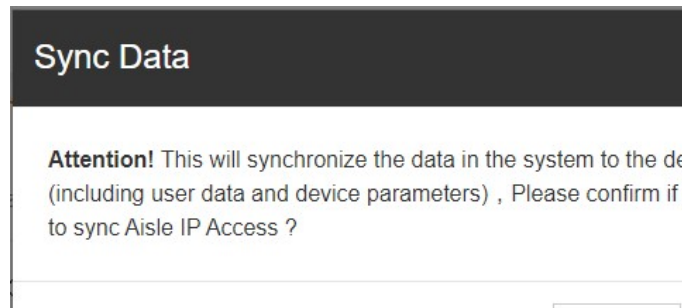

Figure 13-17 Data synchronization
1. Click  on the right side of the IP access controller and select **Sync Data** from the pop-up drop-down menu. The **Sync Data** page is displayed, as shown in Figure 13-17.